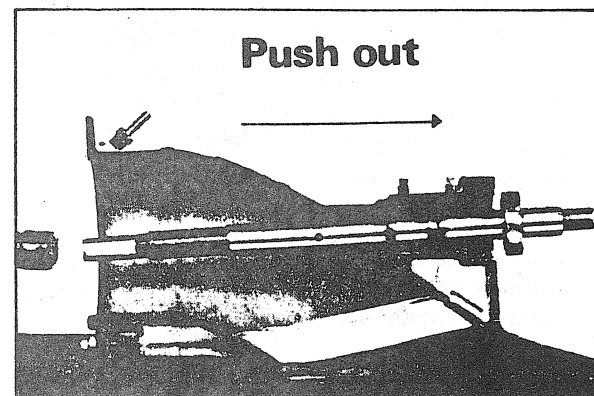

FIGURE 24
- With a soft faced hammer, tap the impeller shaft towards the bearing end of turbine until the outer race of the bearing is clear of the housing (fig. 24). The shaft can then be removed by hand.